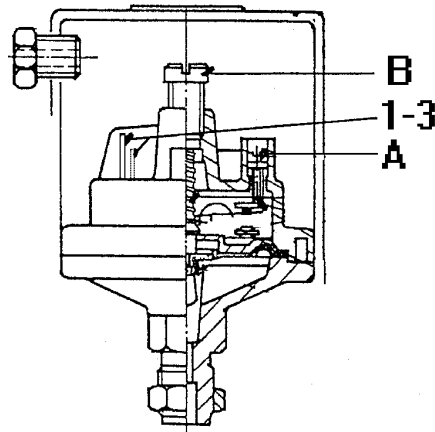

Fig. 5.p
- Position the tips at the top of the Pressure gauge contacts identified with the numbers 1 and 3 (fig 5.p).